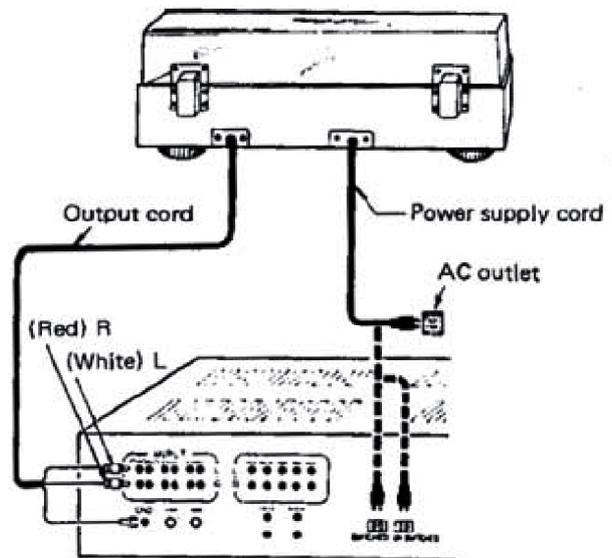

Fig. 10
Make sure to turn OFF the power switch of the amplifier and make the connections, as shown in Fig. 10.
- Are the output cables properly connected to the amplifier? Refer to Fig. 10 on page 9